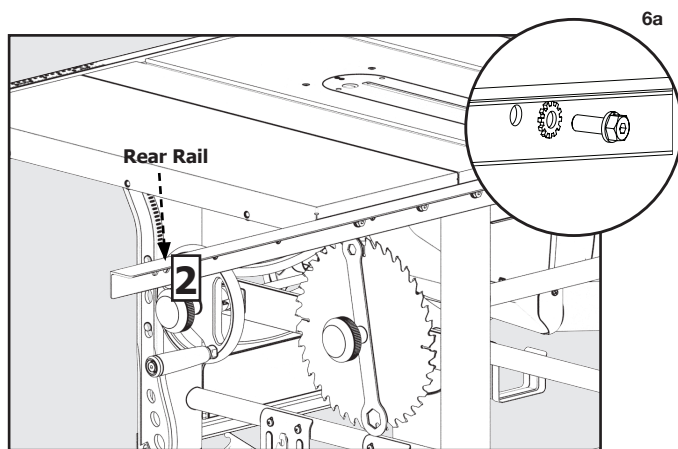

FIGURE 6
2. Attach the rear rail (2) to the table back using two (5/16-18 x 7/8") flat head screws with spring washers. See Figure 6. One (5/16") flat star grounding-washer should be installed directly in front of one of the screw heads. See Figure 6a.